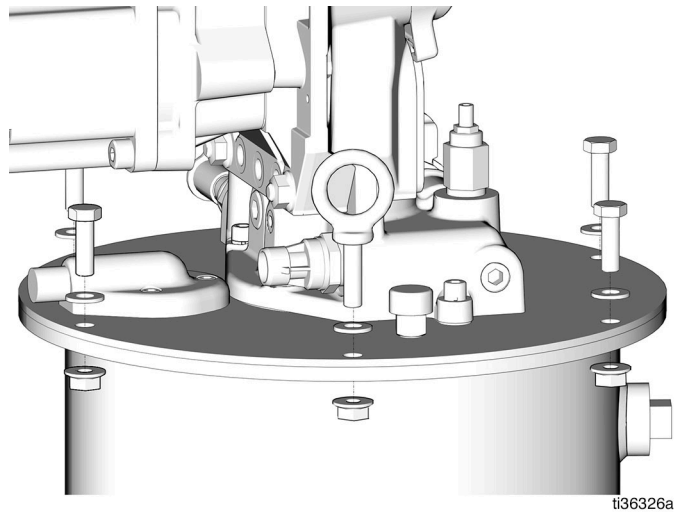

FIG. 11
3. Remove the nuts, bolts and the lifting hook from the top of the tank and retain (FIG. 11).